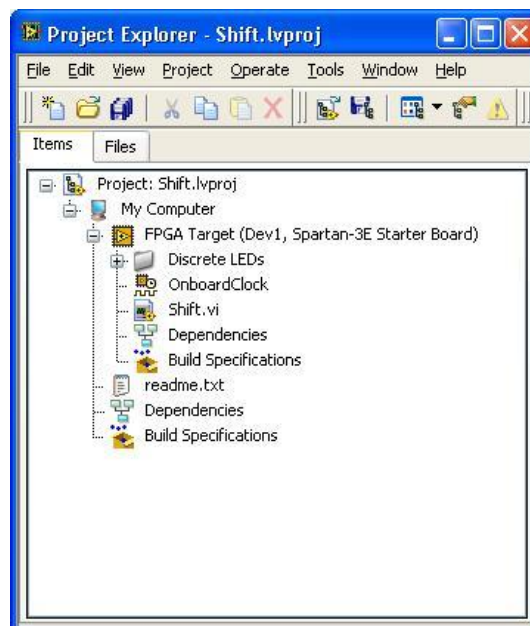

Figure 4: Project Explorer Window
2. In the **Project Explorer** window, expand the plus sign located near FPGA target name. The **Project Explorer** window should be as shown in Figure 4.